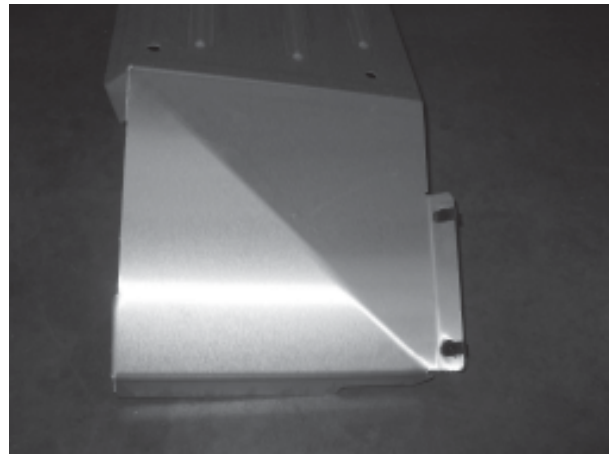

Figure 1
2. Install M6 u-nuts (B5) to inside flange of each skid plate as shown. **(Figure 1)**